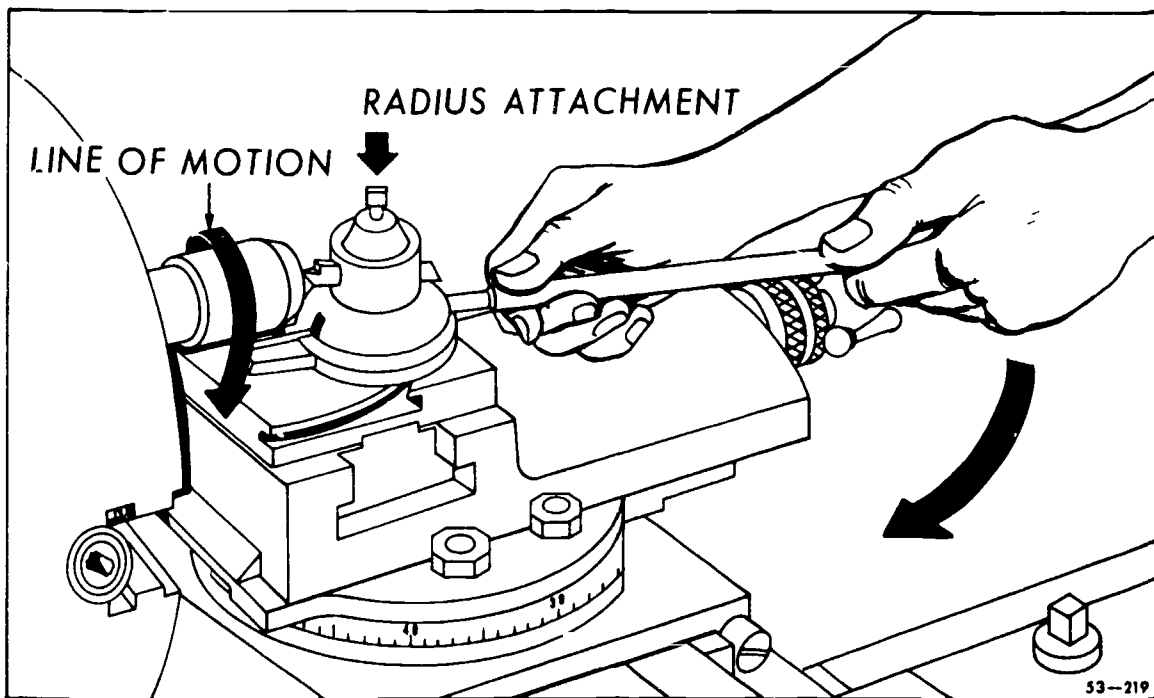

Figure 5-15. Radius turning attachment.
**Radius attachment.** This attachment may be one of two types. One fits directly on the compound rest and is equipped with a handle to swivel the tool in the desired arc. The other type occupies the place of the cross-slide and compound rest. You can rotate the tool by hand feed or by power if the attachment is geared to the apron of the lathe. Figure 5-15 shows a hand-operated radius attachment being used to machine a convex radius.